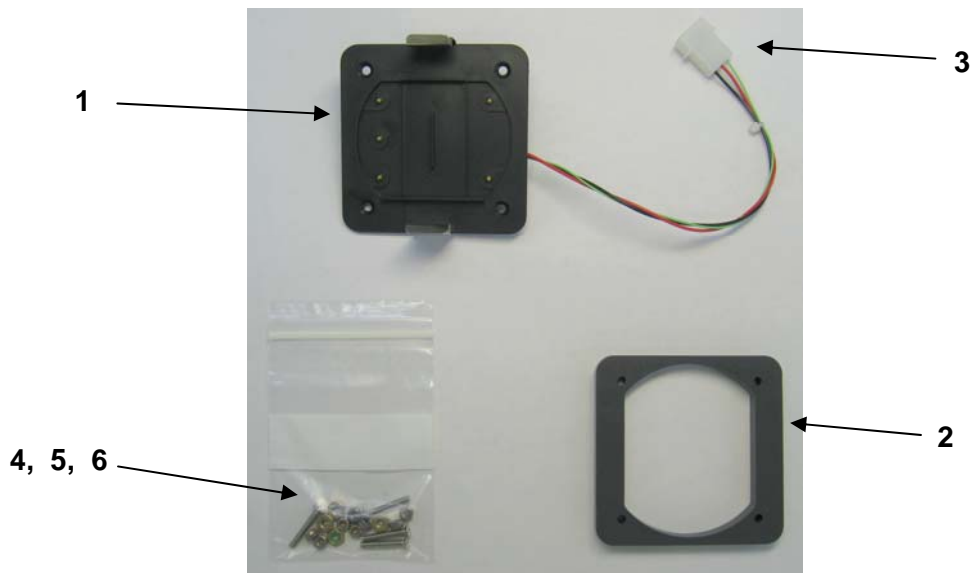
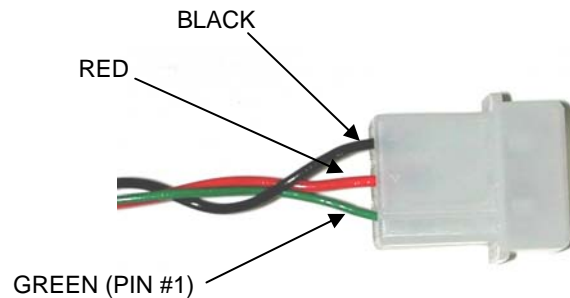

FIGURE 1
FIGURE 2
1. Mount battery pack base (Item 1, Figure 1) using the 4 (each), 6-32 x 7/8" L Phillips head screws provided (Item 4, Figure 1).
NOTE: If mounting the battery pack base to a location other than an instrument hole, the spacer (Item 2, Figure 1) will be necessary. Using the spacer as a drill guide for the proper hole location, drill four (4) 5/32" diameter holes. Use the spacer as the reference for wires to feed through and drill a 3/16" diameter hole in the approximate center of the spacer.
2. Feed battery pack base harness leads (Item 3, Figure 1). If required, disassemble the connector (Item 3, Figure 1) attached (as supplied) to feed wires through the 3/16" diameter center hole. Re-attach the connector (refer to Figure 2).